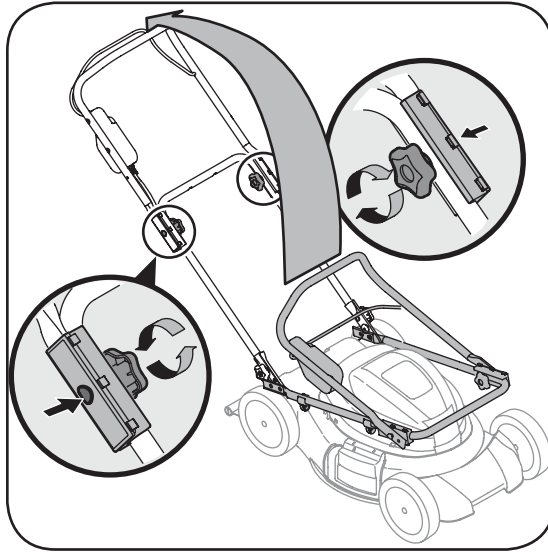

Figure 3-1
- b. Gently lift and pivot the upper handle into the operating position as shown in Figure 3-1.